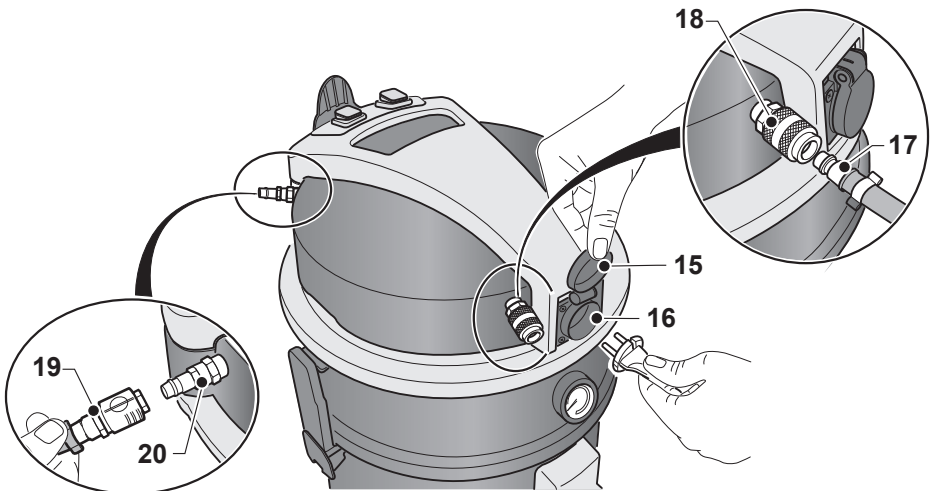

Fig. 9
- Lift the cover (15 Fig. 9) and connect the power tool plug to the outlet (16 Fig. 9) present on the head of the vacuum cleaner (maximum power allowed 2000 W).